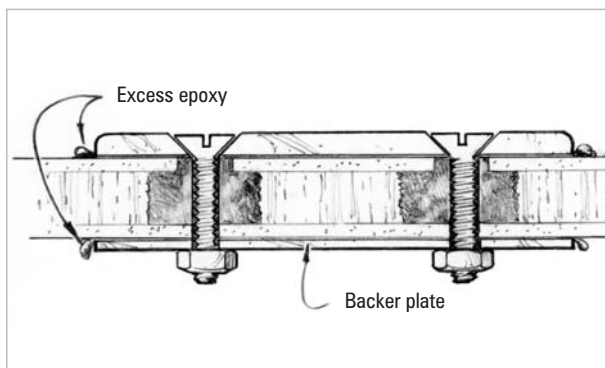

Figure 7-4 Tighten the nuts until epoxy begins to squeeze from the sides of hardware item and backing plate.
10. Place the backing plate over the bolts in position against the inner side of the panel. Tighten the nuts until epoxy begins to squeeze from the sides of the hardware item and backing plate (*Figure 7-4*). Do not over-tighten the fasteners. Clean away any squeezed out epoxy mixture with a chisel-shaped mixing stick and remove the masking before the epoxy begins to gel. Allow the epoxy to cure at least 24 hours before applying load to the hardware. Allow more time in cool weather. Tighten the nuts completely after the epoxy cures thoroughly.